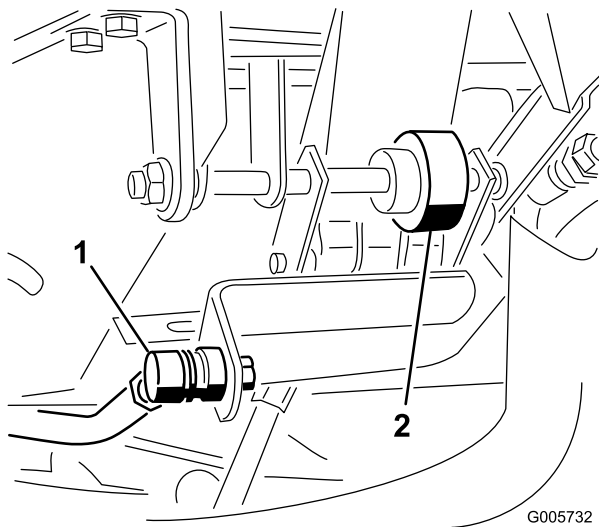

Figure 71
4. Adjust control rod end (Figure 71) until there is a .12" gap between top of traction pedal stop screw and pedal. Tighten lock nuts.
1. Loosen two nuts securing traction pedal shaft on right side of pedal (Figure 71).